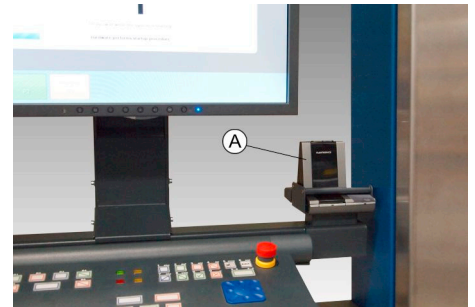

Fig. 14: Wireless audio base
At the local station a wireless base (A) is mounted to the keyboard bracket (see Fig. 14). The audio hardware facilitates up to four operators (remote and local operators) to conference over an audio channel to one another.